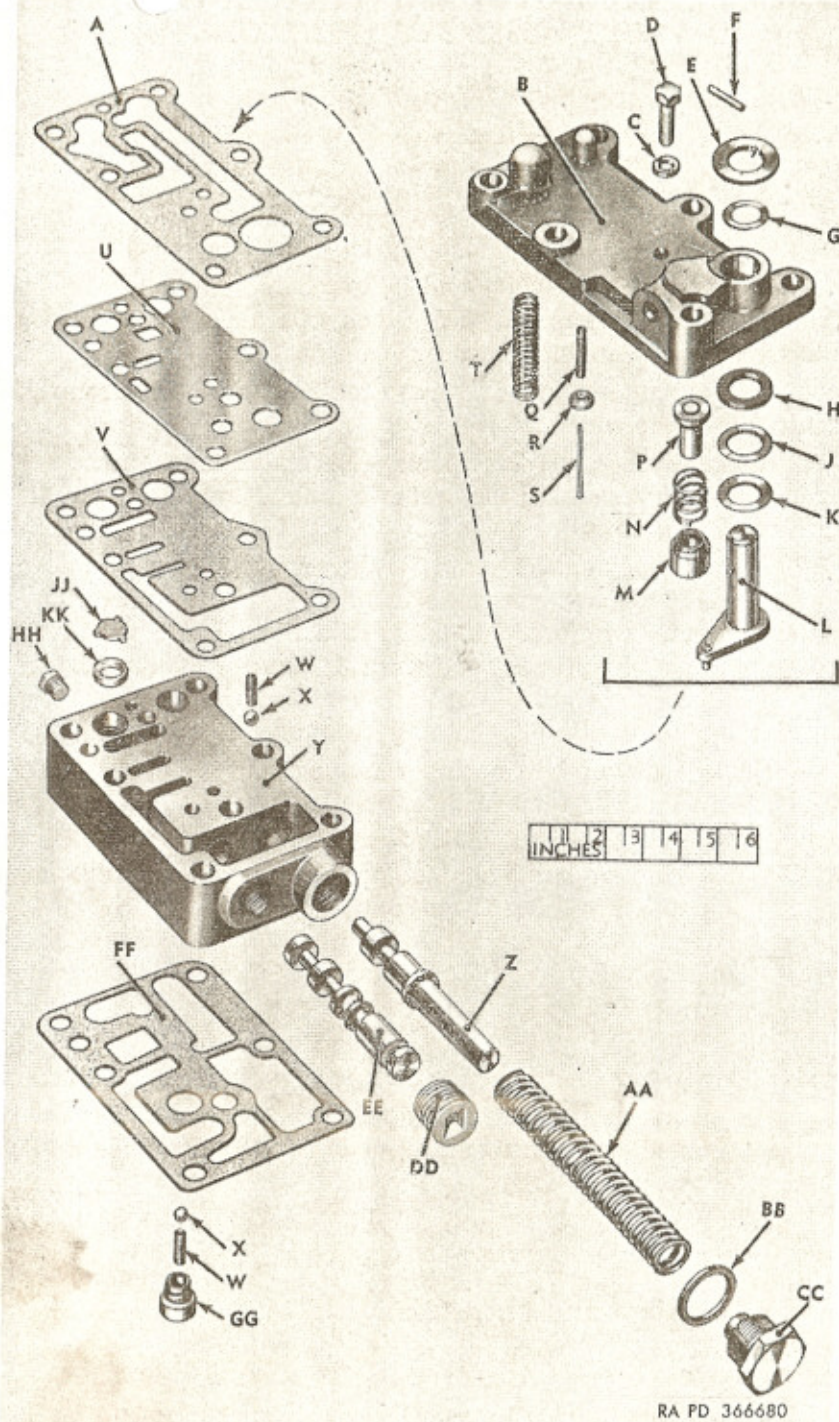
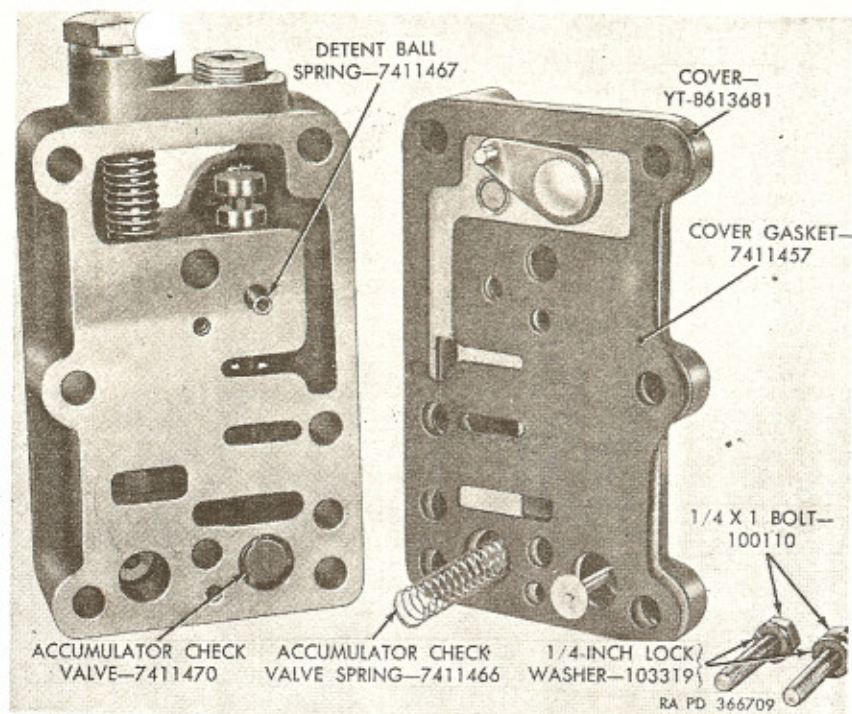

Figure 155. Reduction unit control valve components.
Figure 156. Control valve with cover removed.
Note. The capitalized key letters shown below in parentheses refer to figure 155. Be careful when separating control valve cover (B) and body (Y). Do not lose accumulator check valve (JJ), accumulator check valve spring (T), detent ball (X), and detent ball spring (W). These parts are illustrated in a view of control valve with cover removed (fig. 156).
a. Remove two bolts (D) and lockwashers (C) attaching control valve cover (B) to body (Y); then separate cover from body. Remove and discard body spacer plate gasket (V).
b. With a pin punch, drive control lever pin (F) from the control lever assembly (L).
c. Remove control lever washer (E) and O-ring gasket (G) from control lever shaft; then remove control lever assembly (L) from cover (B).
Note. The capitalized key letters shown below in parentheses refer to figure 155. Refer to paragraph 167 for repair and rebuild standards.
Note. The capitalized key letters shown below in parentheses refer to figure 155. Also refer to figure 156. All parts must be thoroughly lubricated with engine oil (OE-10) before assembly.